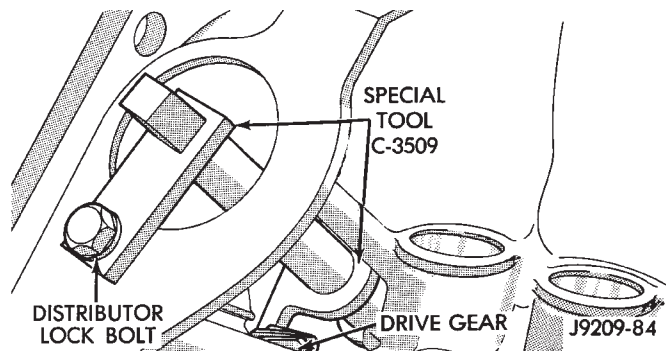

Fig. 12 Camshaft Holding Tool C-3509 (Installed Position)
(2) Install Camshaft Gear Installer Tool C-3509 with tongue back of distributor drive gear (Fig. 12).